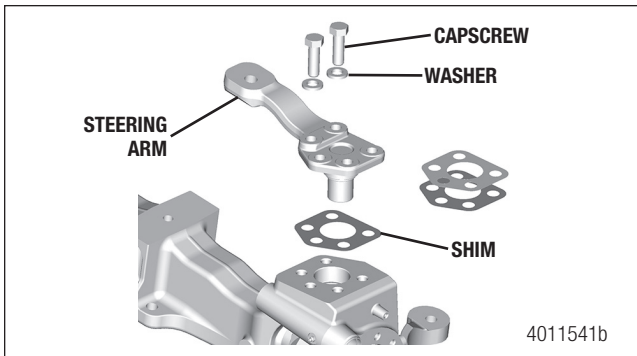

Figure 8.12
- d. Fully release the jack pressure and read the end play on the dial indicator. Correct end play is 0.005-0.015-inch (0.127-0.381 mm). Remove or add shims from between the upper knuckle cap/steering arm and the axle housing to obtain the correct end play. Figure 8.12.